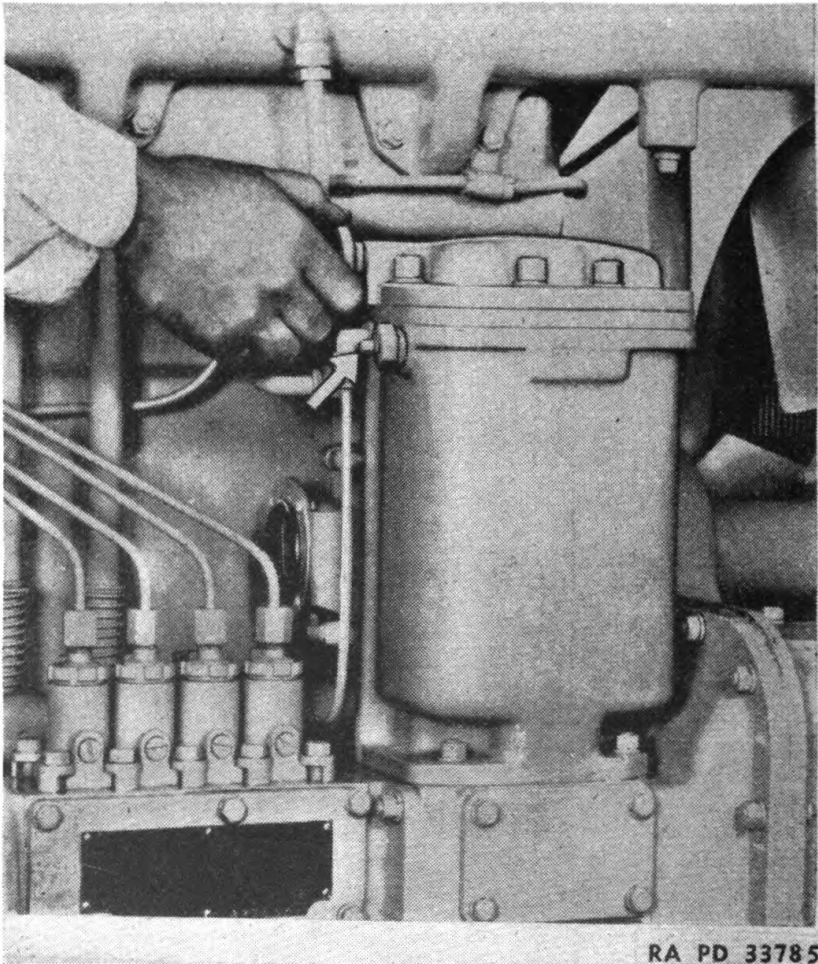

FIGURE 62.—Opening fuel filter vents.
51. Fuel injection pump lifter springs.—a. In the event that a lifter spring is broken, the fuel injection pump housing should be taken off the engine (fig. 62).